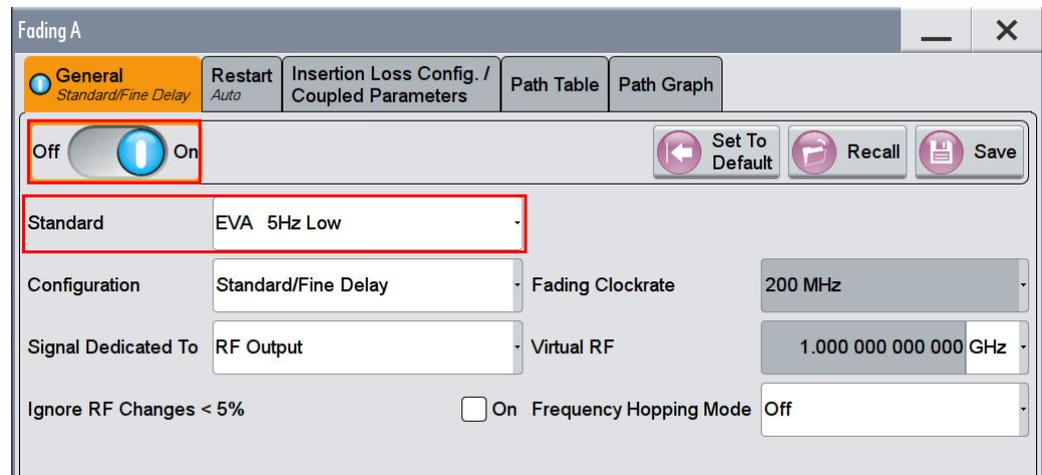

Fig. 3-15: Overview General Fading settings. Select a predefined settings in Standard
2. Select a profile via **Standard** (e.g. EVA 5 Hz Low) (Fig. 3-15 and Fig. 3-16)
3. Switch the fading block **On**. (Fig. 3-15)